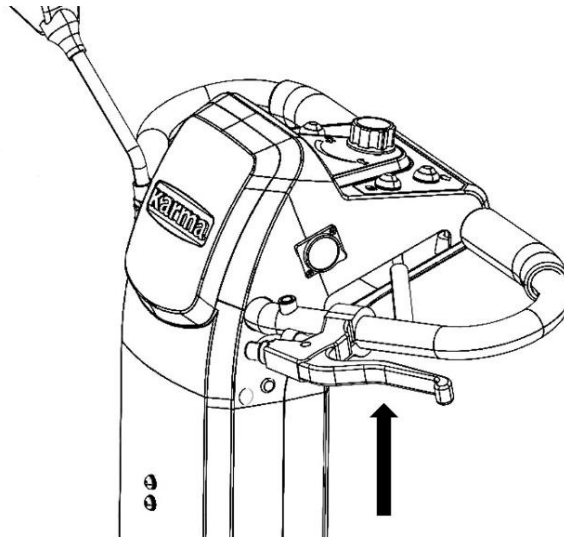

Figure 5.11
5.18.1 KS-343.2 has an emergency brake mounted on the left handlebar. (See **Figure 5.11**) If the electromagnetic brake malfunctions, you may use the manual emergency brake to stop your scooter.